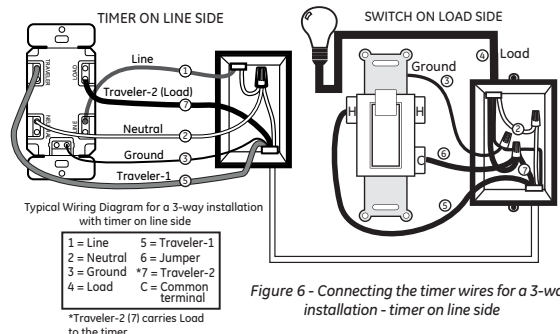

Figure 6 - Connecting the timer wires for a 3-way installation - timer on line side
3. Using Figure 6 as a visual reference, connect the jumper wire (6) (supplied), the LOAD wire (4) from the common terminal (C), and the Traveler-2 wire (7) together. You should have three wires connected with one wire nut.
4. Connect the other end of the jumper wire (6) back to the common terminal (C) on the switch. Consider recording the marking/color coding of the Traveler-1 (5) and Traveler-2 (7) wires so you can tell them apart for later use.
2. Using the Timer on LINE Side of Figure 6 as a visual reference for the remaining steps, connect the LINE wire (1) to the LINE terminal of the timer.
3. Connect the white Neutral wire (2) to the NEUTRAL terminal of the timer. More neutral wires may be bundled together in the back of the switch box; there may be several neutral wires bound together with a wire nut. Add the Neutral wire to the other neutral wires bound together, ensuring the wire nut is tight.
4. Connect the Traveler-1 wire (5) to the TRAVELER terminal of the timer and the Traveler-2 wire (7) to the LOAD terminal of the timer.
5. Connect the green Ground wire (3) to the GROUND terminal of the timer.
10. If the load does not operate properly, disconnect the power at the circuit breaker or fuse box. Then swap the Traveler-2 (LOAD) wire (7) and Traveler-1 wire (5) at the timer or the toggle switch.